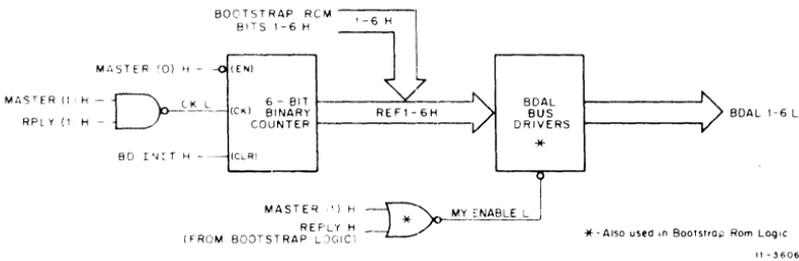

Figure 5 Refresh Address Logic
Low R PENDING (1) H and DONE (0) H signals are gated to produce the active (low) RCLR L signal (Figure 2) which clears the Mine flip-flop; BSACK L and MINE (0) H signals go high. RCLR L also clears the master flip-flop in the bus control logic (Figure 4), causing BREF L to go passive and MY ENABLE L in the refresh address logic (Figure 5) to go passive, inhibiting the BDAL bus drivers. On the next SCLK H pulse, MASTER SYNC (1) H goes passive (Figure 4), and the refresh bus transaction is
**Refresh Address Logic** – Refresh address logic is shown in Figure 5. A 6-bit binary counter produces the six row address bits that are placed on the BDAL bus during the addressing portion of the refresh bus transaction. The low MASTER (0) H signal enables the counter output bits during the operation. Upon completing the transaction, RPLY (1) H goes passive, inhibiting the CK L gate; the CK L signal goes high, incrementing the 6-bit binary counter by one count. Hence, on each successive refresh operation, a new row address is used.